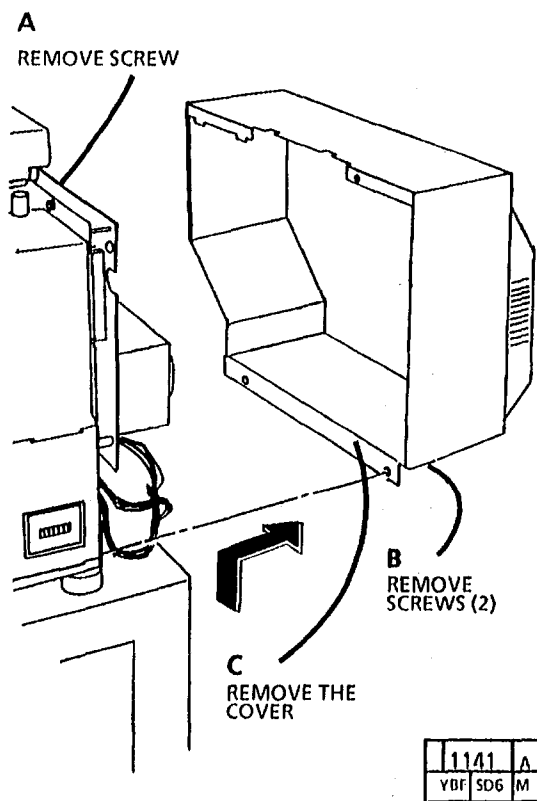
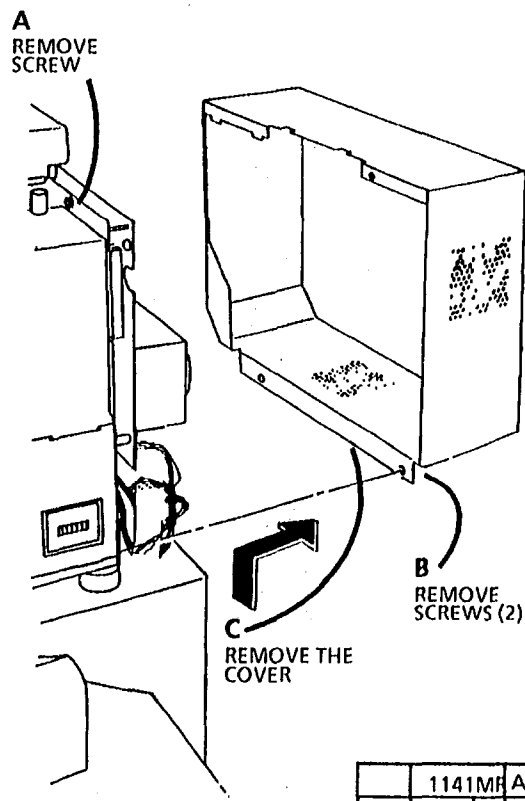

Figure 6 (2510). Removing the Left Side Cover
Figure 7 (2515). Removing the Left Side Cover
5. (2510, Figure 6; 2515, Figure 7): Remove the left side cover.